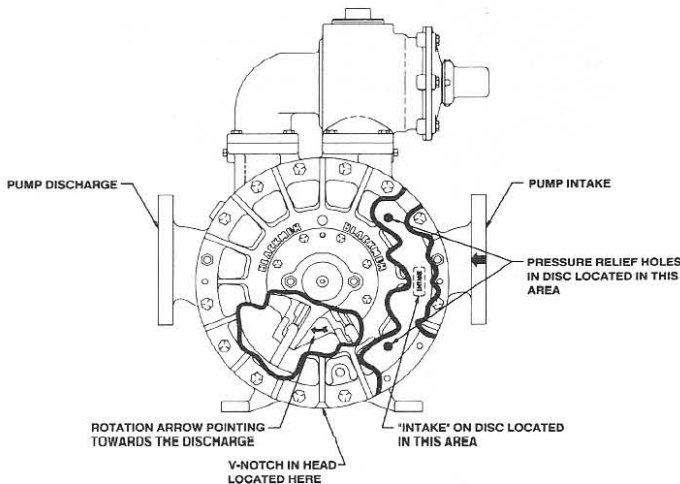

Figure 6
- a. Place a disc (71) on the head (20 or 20A) with the counter-bored screw holes facing up.
- b. Position the disc so that when the head is mounted with the drain hole and V-notch down, the word "INTAKE" on the disc will be towards the intake side of the pump. The two disc holes should be in the 2 and 4 o'clock positions if the inlet is on the right (see Figure 6).
- c. Install the four (4) lockwashers (71B), tangs outward, and machine screws (71A) to attach the disc to the head.
- a. Partially install the rotor and shaft into the open side of the pump and through the bore of the installed head. Be careful not to damage the disc face with the shaft end. **NOTE:** When installing the rotor and shaft, the rotation arrow on the rotor must point in the direction of pump rotation—towards the discharge side of the pump when the arrow is positioned directly below the shaft. (Refer back to Figure 6.)